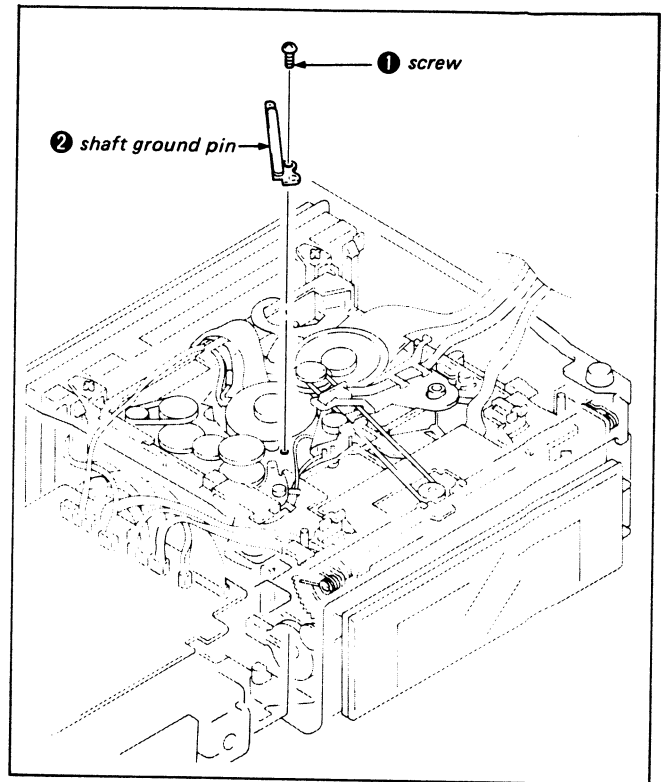
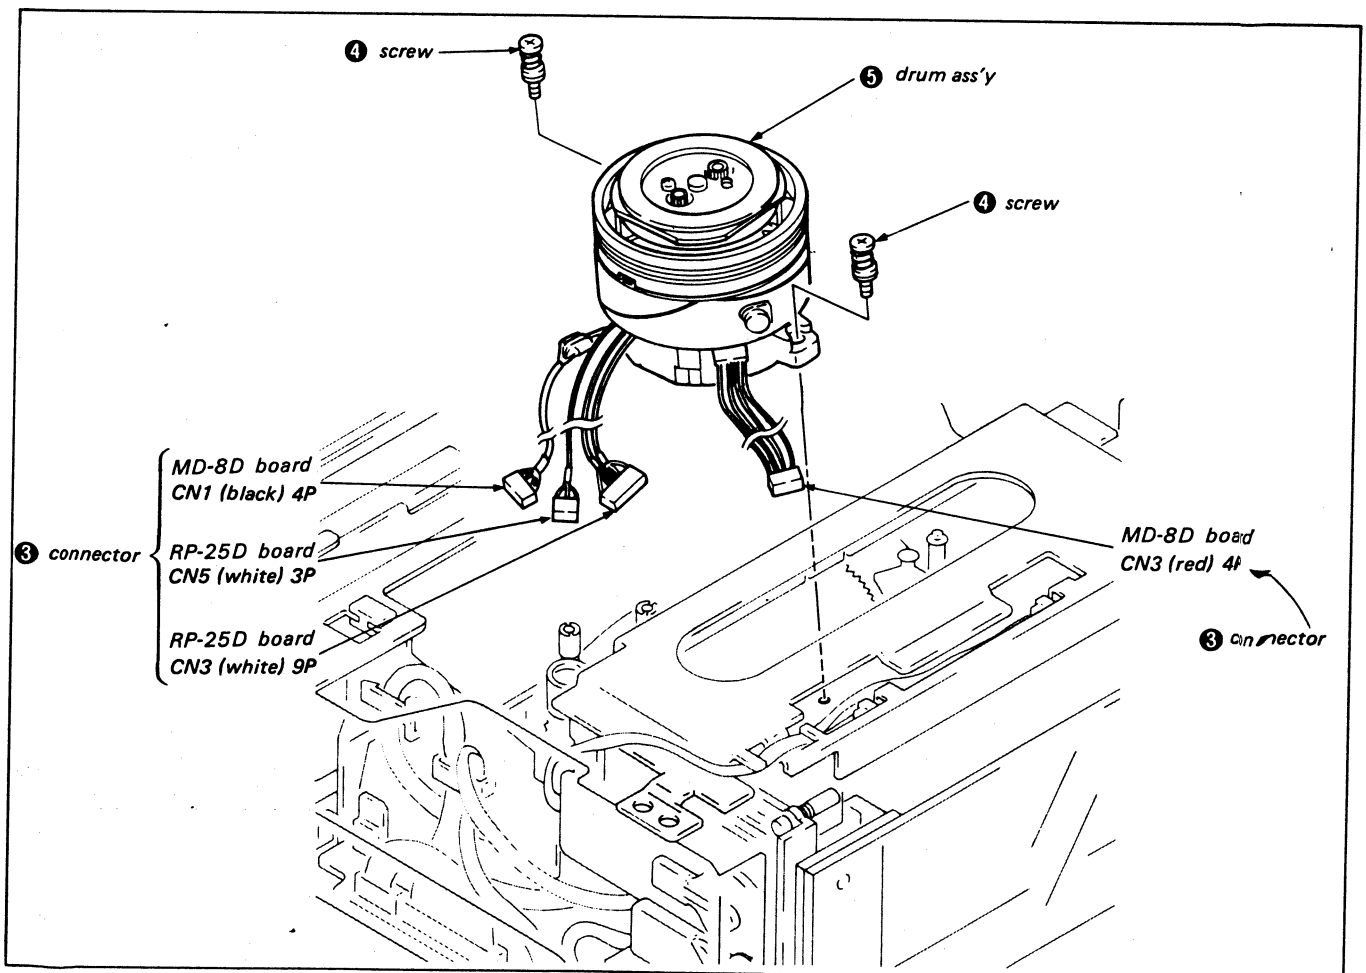

Fig. 3-47.
Fig. 3-48.
- 2) Remove screw ① and the shaft ground pin ②. (Fig. 3-47)
- 3) Remove the four connectors ③.
- 4) Remove the two screws ④.
- 5) Remove the drum assembly ⑤. (Fig. 3-48)
- 1) Mount drum assembly ⑤ and tighten the two screws ④.
- 2) Connect the four connectors ③. (Fig. 3-48)
- 3) Mount shaft ground pin ② and tighten screw ①. (Fig. 3-47)